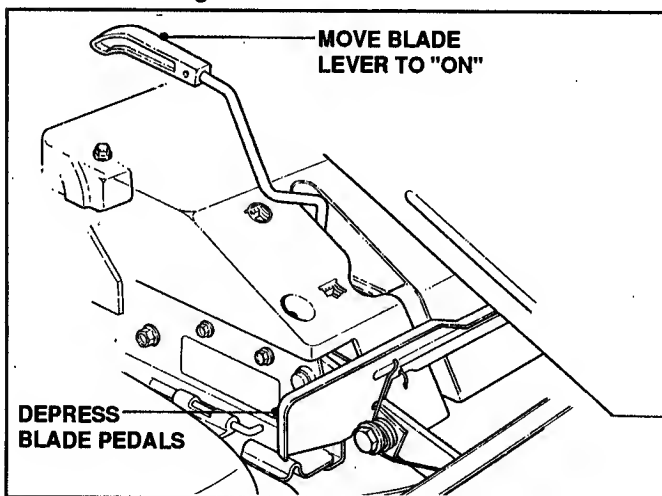

FIGURE 3.4
- Move blade lever up and over to the "ON" position and depress blade pedals. See Figure 3.4.